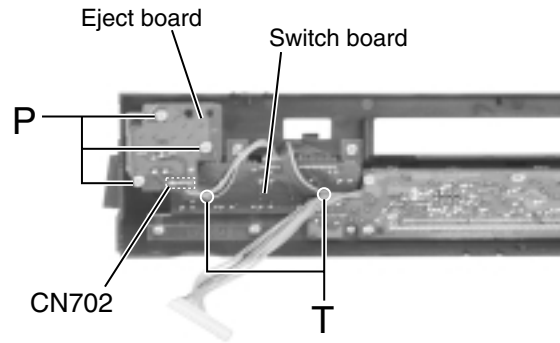

Fig.28
■Removing the eject board (See Fig.28)
■Removing the switch board (See Fig.28)